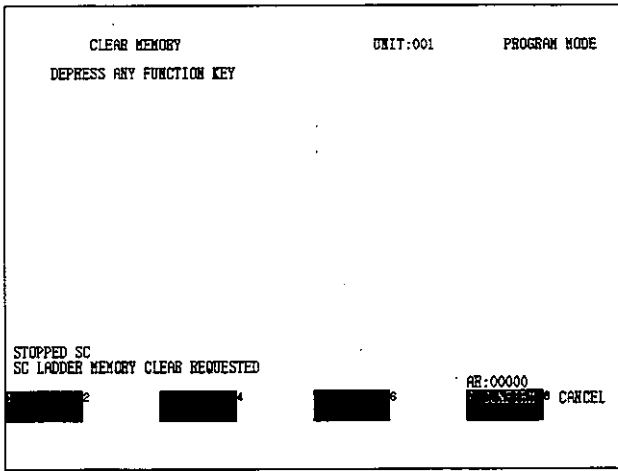

Figure 6.17
5) Select Clear Ladder. The screen shown in Figure 6.17 will be displayed. (See Note (3))